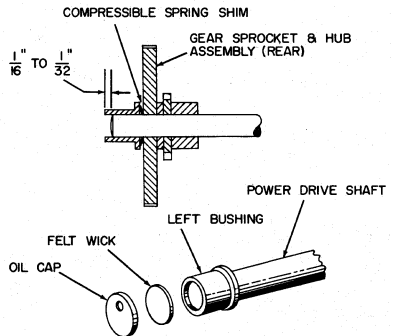

Figure 2
1. Remove the oil cap and felt wick (Figure 2).